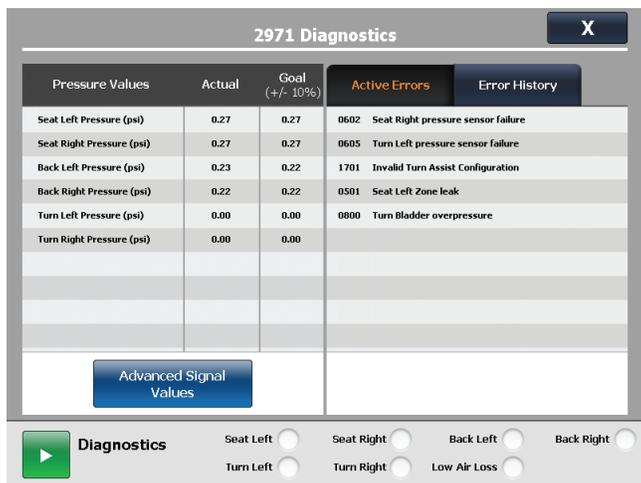

Figure 42 – Diagnostics main screen sample
- Tap **Advanced Signal Values** on the Diagnostics screen (Figure 42).